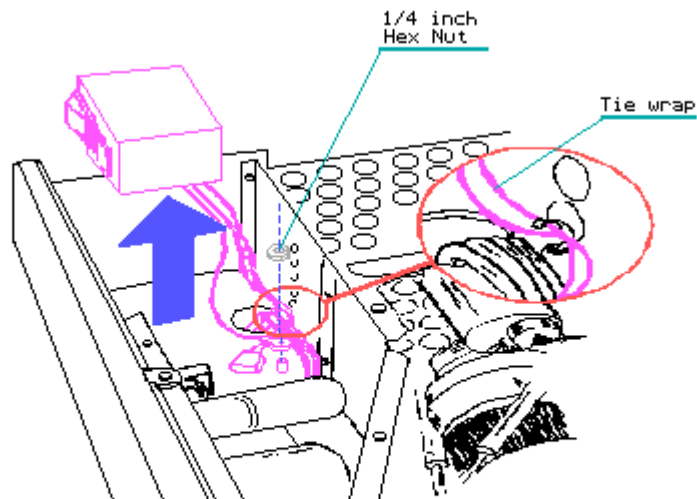

Figure 7.8-23. Disconnecting the Power Switch Ground Cable and Removing the Power Switch Filter Assembly
4. Lift the power switch filter assembly out and place it on the chassis (Figure 7.8-23).